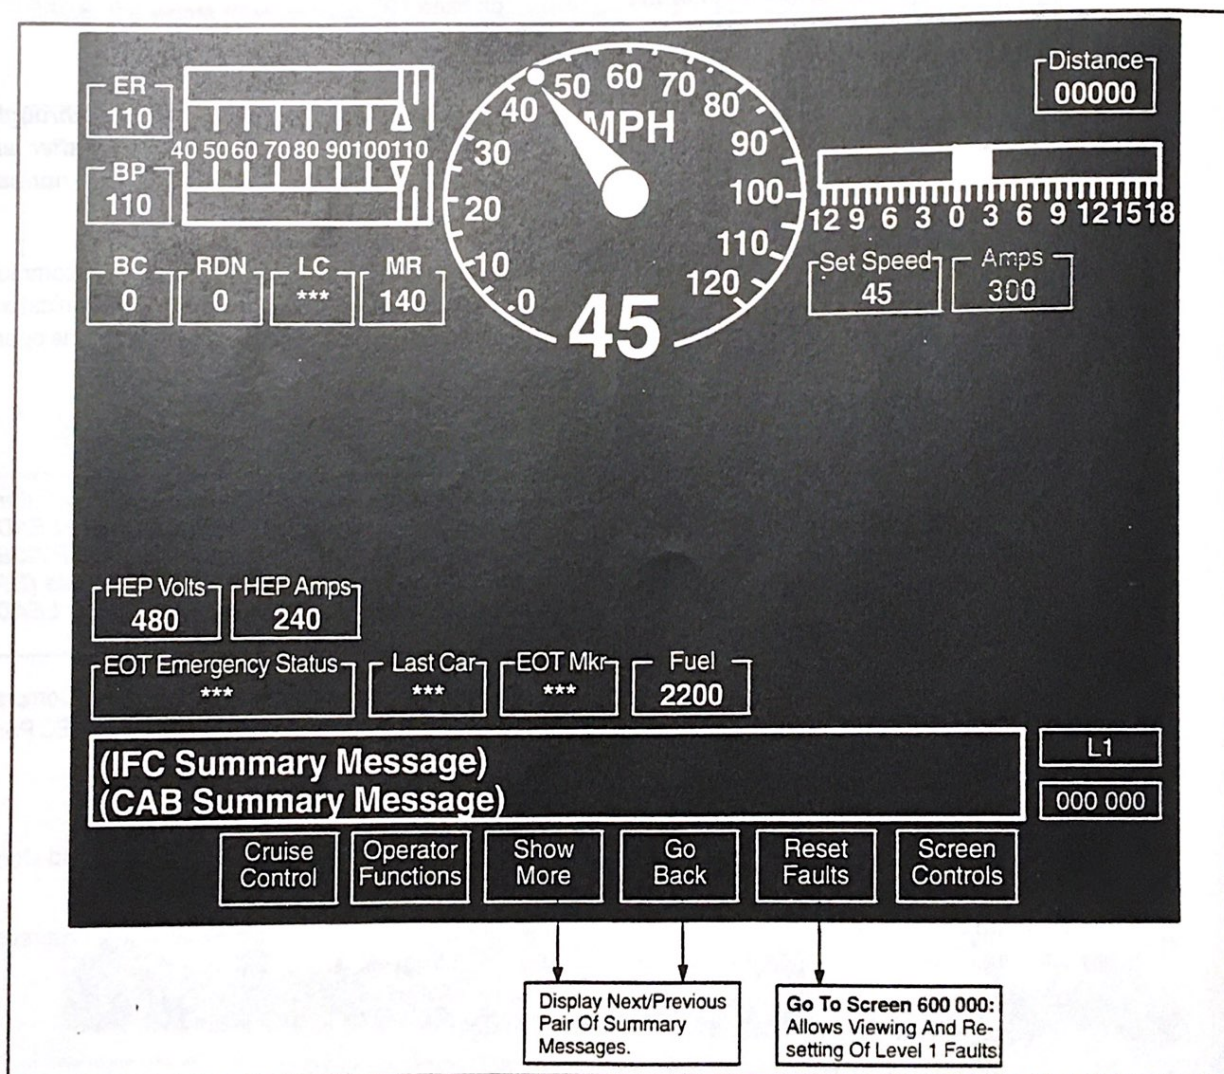
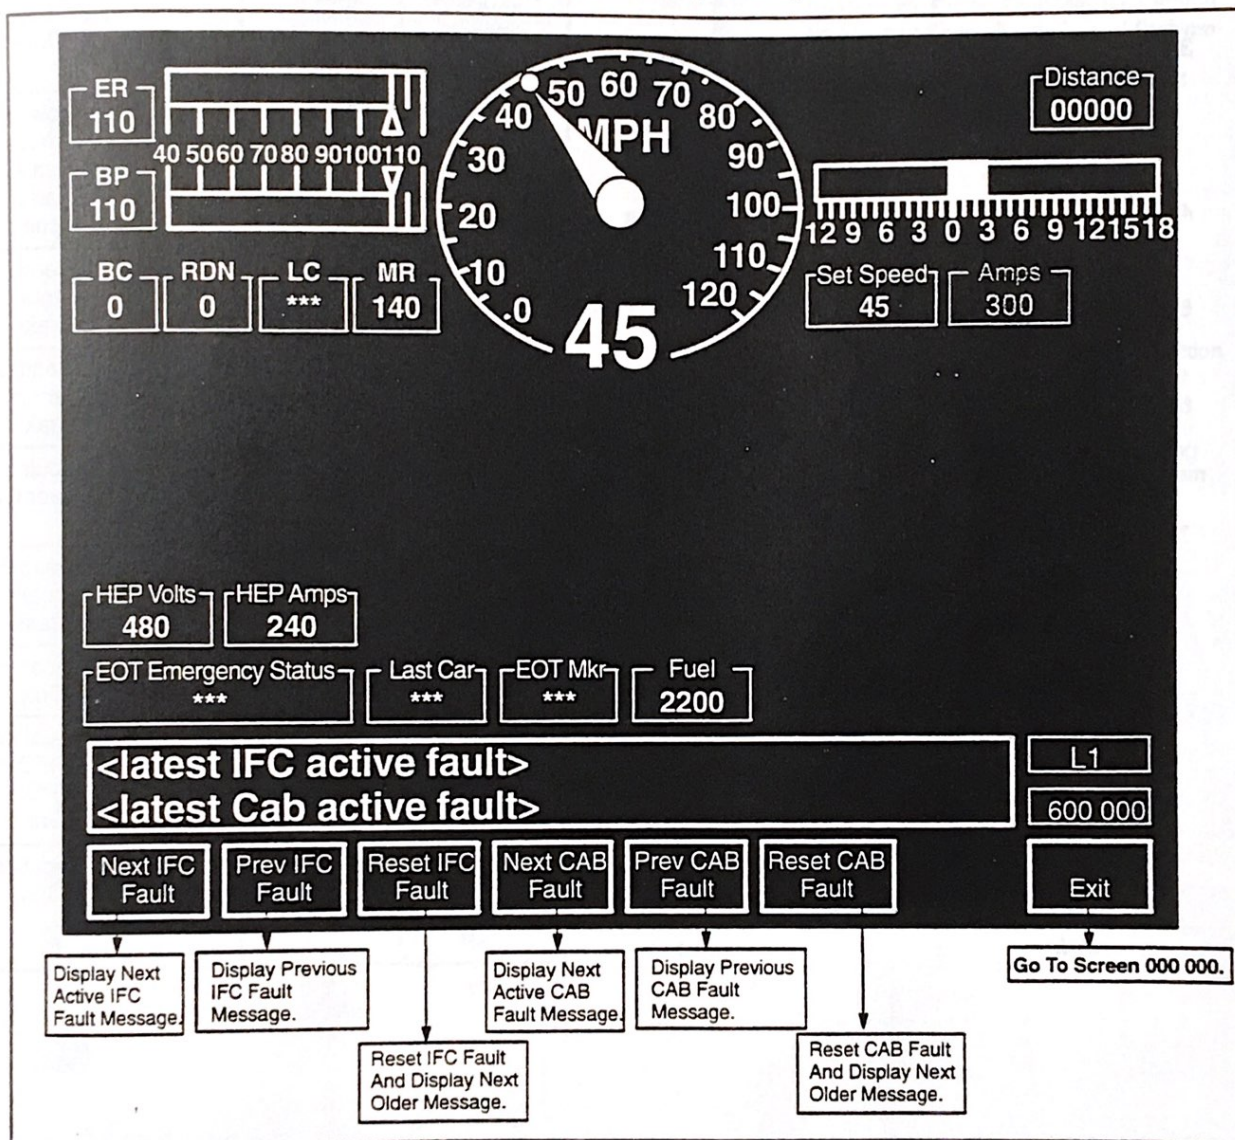

FIG. 73. MAIN OPERATION SCREEN (000 000). E-42791.
FIG. 74. OPERATOR FAULT RESET SCREEN (600 000). E-42593.
The Top Level Screen (000 000, Fig. 73) will be displayed on all IFDs and the message line will display any IFC or CAB Operator messages.
Pressing this key will display screen 600 000 (Fig. 74).
**NOTE:** This screen (Fig. 74) will display only the faults that may be reset at LEVEL 1 operation. The faults will be shown in chronological order with the newest shown first. When all faults have been reset, lower Display Line will read "NO MORE ACTIVE FAULTS" for three seconds and then the IFC control will exit to screen 000 000 (Fig. 73).
Pressing key position F6, **Reset Faults**, on the Main Operation Screen (screen 000 000, Fig. 73) will display screen 600 000, Fig. 74). The active keys and a brief description of operation are as follows: